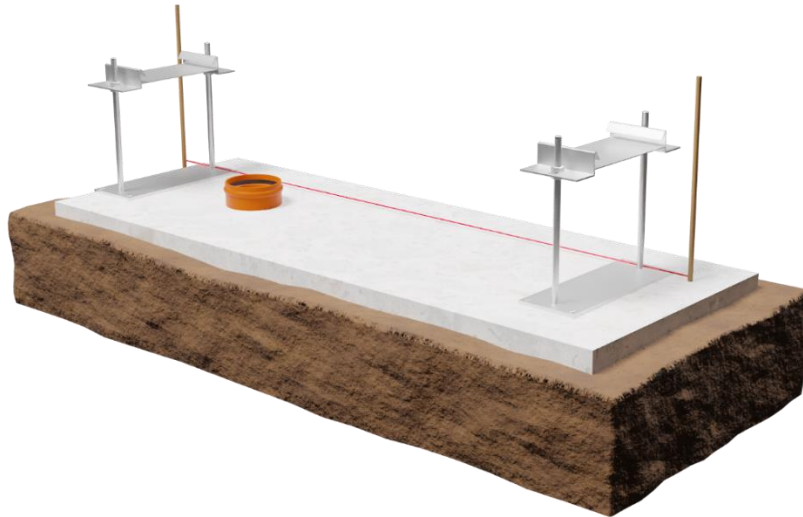

Figure 2
2. The installation of the support stands is done on a concrete blinding layer – see **Figure 2**.